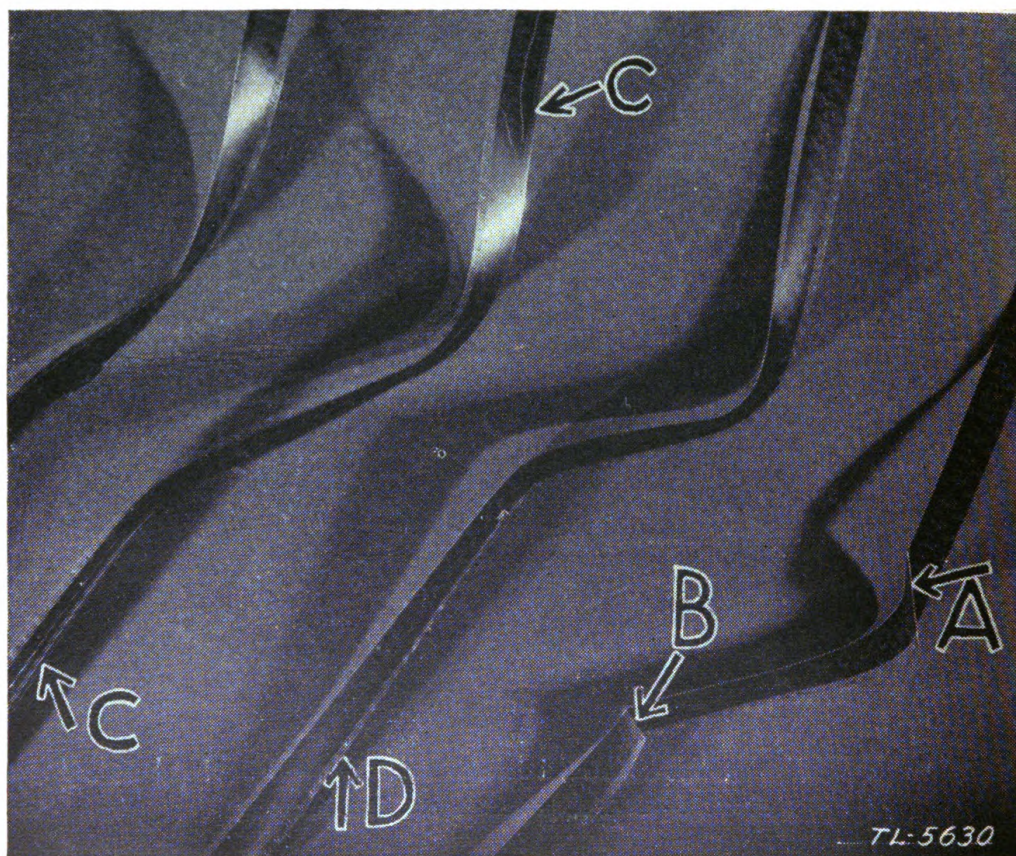

FIGURE 19.—Examples of film damage.
b. Film damage.—Film damage is caused by careless handling and careless projector operation. Figure 19 shows the four most common examples of film damage.
(1) **Diagonal creasing A** (fig. 19) is usually caused by film running over flange of feed sprocket, or by foreign material on sprocket shoe or guide roller.
(2) Horizontal creasing *B* is usually caused by stepping on film. Always be sure that film takes up properly during projection, so that it does not collect on the floor.
(3) Scratches on film *C* are usually caused by dirt in film gate or dragging pawl.
(4) Enlarged sprocket holes *D* are usually caused by dirty sprockets, lost loops, or excessive film gate tension.
(5) Sprocket holes on the sound track are made by incorrect threading or the use of sound film on a silent projector.